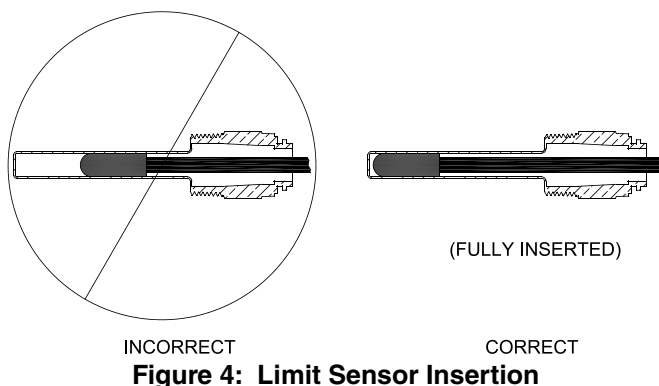

Figure 4: Limit Sensor Insertion
2. Insert the Limit Sensor into Immersion Well until it rests against the bottom of the well as shown in Figure 4.